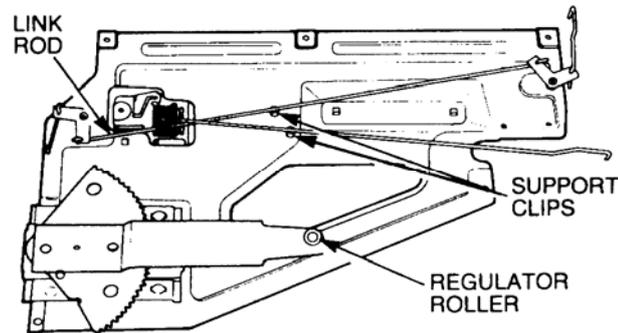

Figure 27 Rear Side Door Inner Panel Removal
- u. Remove the panel (refer Figure 27).
- aa.** Press the link rod into the support clip (refer Figure 27).